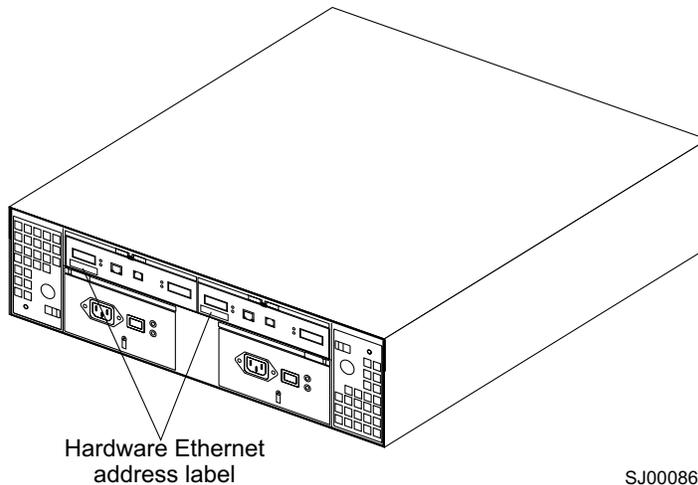

Figure 8. Locating the Ethernet MAC address for machine type 3542 and 1722
1. Locate the Ethernet MAC address at the back of the unit, under the controller Fibre Channel Host ports, as shown in Figure 8 on page 24. The number will be in the form xx.xx.xx.xx.xx.xx (for example, 00.a0.b8.20.00.d8).